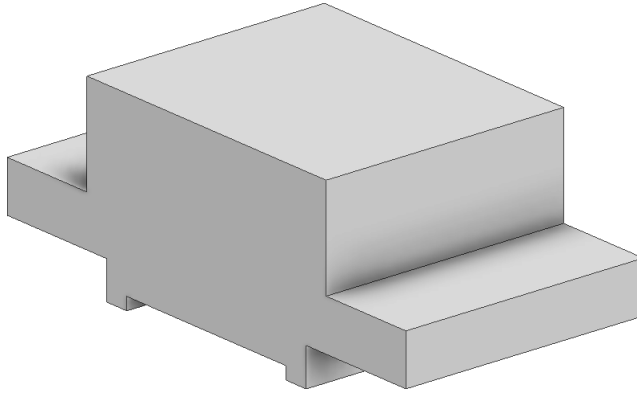

Figure 2-88 The model created on extruding the sketch
3. Choose **OK** from the dialog box to create the model and exit the **Properties-Extrusion** dialog box. The extruded model is shown in Figure 2-88.